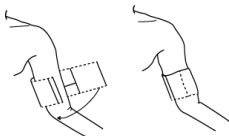

Figure 4.2.1 Cuff applying
2. Apply the cuff to the patient's upper arm following the instructions below (Figure4.2.1).